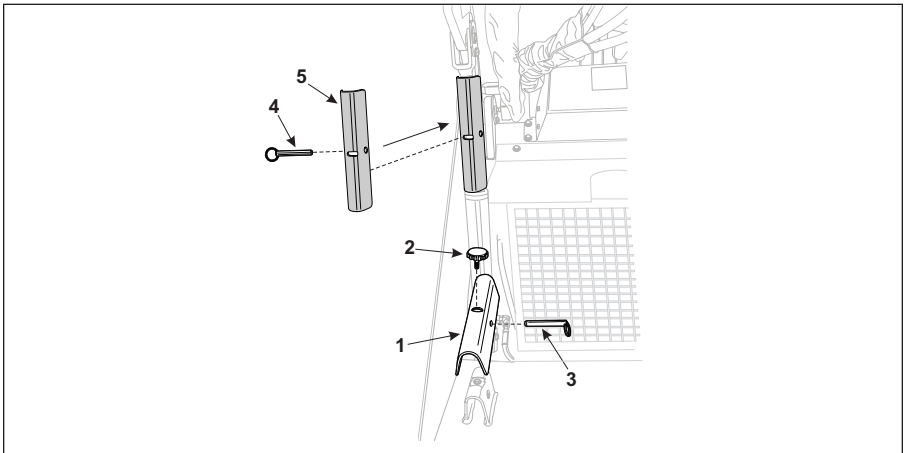

Figure 3-9 Safety Lock Installation
4. While holding the cylinder lock (Item 1, Figure 3-9), remove the lock knob (Item 2, Figure 3-9) and pull the safety lock pin (Item 3, Figure 3-9) outwards, releasing the cylinder lock.
6. Fully reinsert the safety lock pin (Item 4, Figure 3-9), securing the cylinder lock (Item 5, Figure 3-9) in the support position.
3. Pull the safety lock pin (Item 4, Figure 3-9) fully outwards.
4. Remove the cylinder lock (Item 5, Figure 3-9) and return it to the storage position on one of the hydraulic lines, such as over the filter return line.
5. Fully insert the safety lock pin (Item 3, Figure 3-9) and lock knob (Item 2, Figure 3-9) to secure the cylinder lock in the storage position.